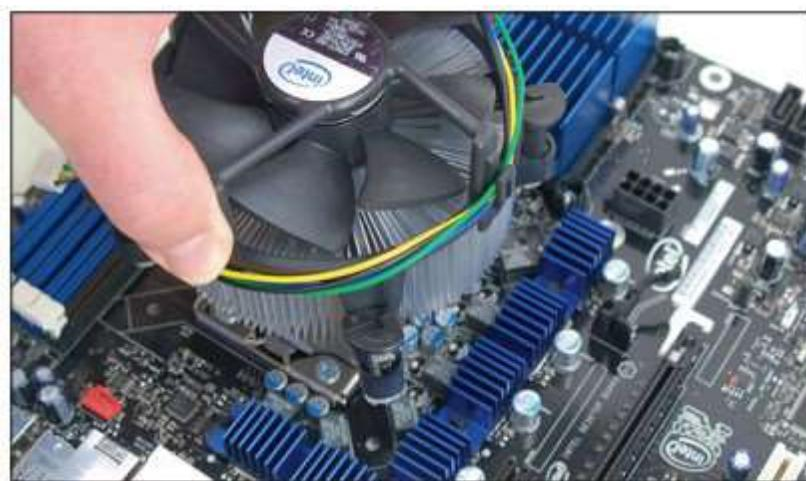

Figure 9
- Align the cooler over the processor so that all four posts fit into the four holes on the motherboard and the fan power cord can reach the fan header on the motherboard (See Figure 9).